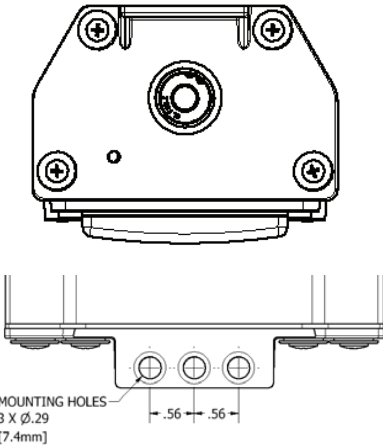

Figure 3
- A. The end caps have provisions for surface or suspension mounting. (See Figure 3)